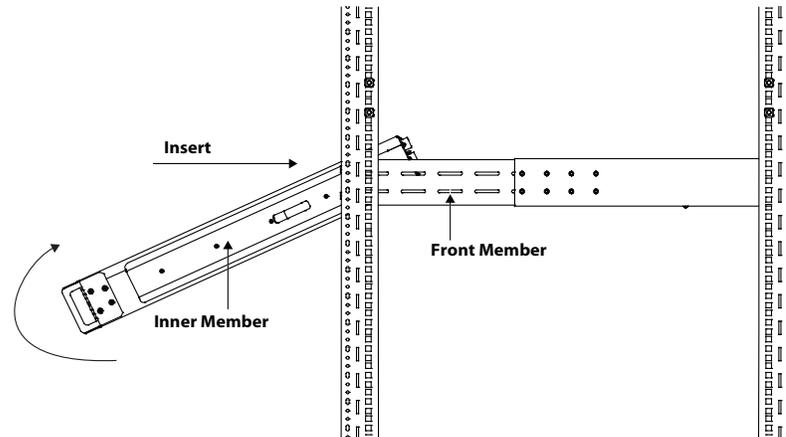

**Figure 13: Installing rack mount handles**
8. Use M4 screws to install ears on both sides of the UPS as shown in Figure 13.